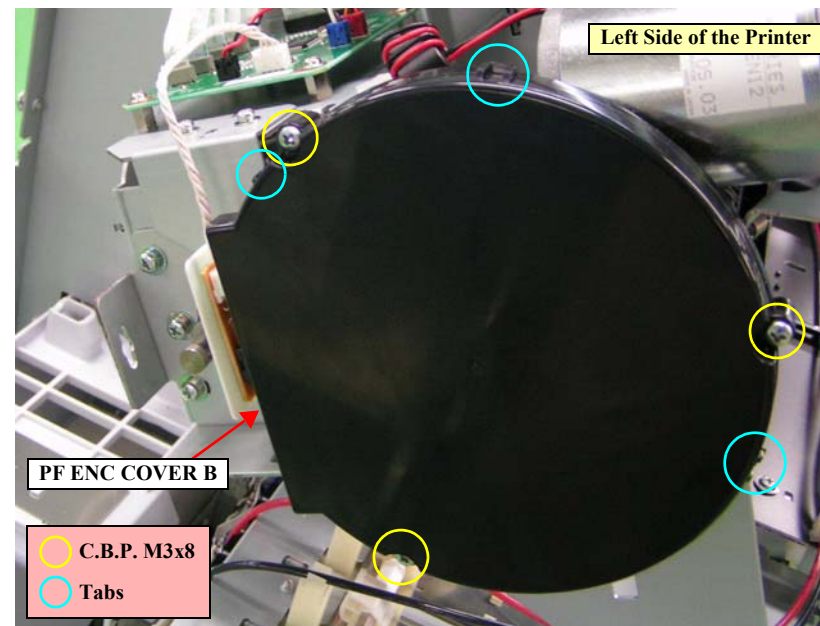

Figure 4-82. Removing the PF ENC COVER B
2. Remove the three screws that secure the PF ENC COVER B. *See Figure 4-82.*
3. Release the three tabs that secure the PF ENC COVER B and remove it. *See Figure 4-82.*